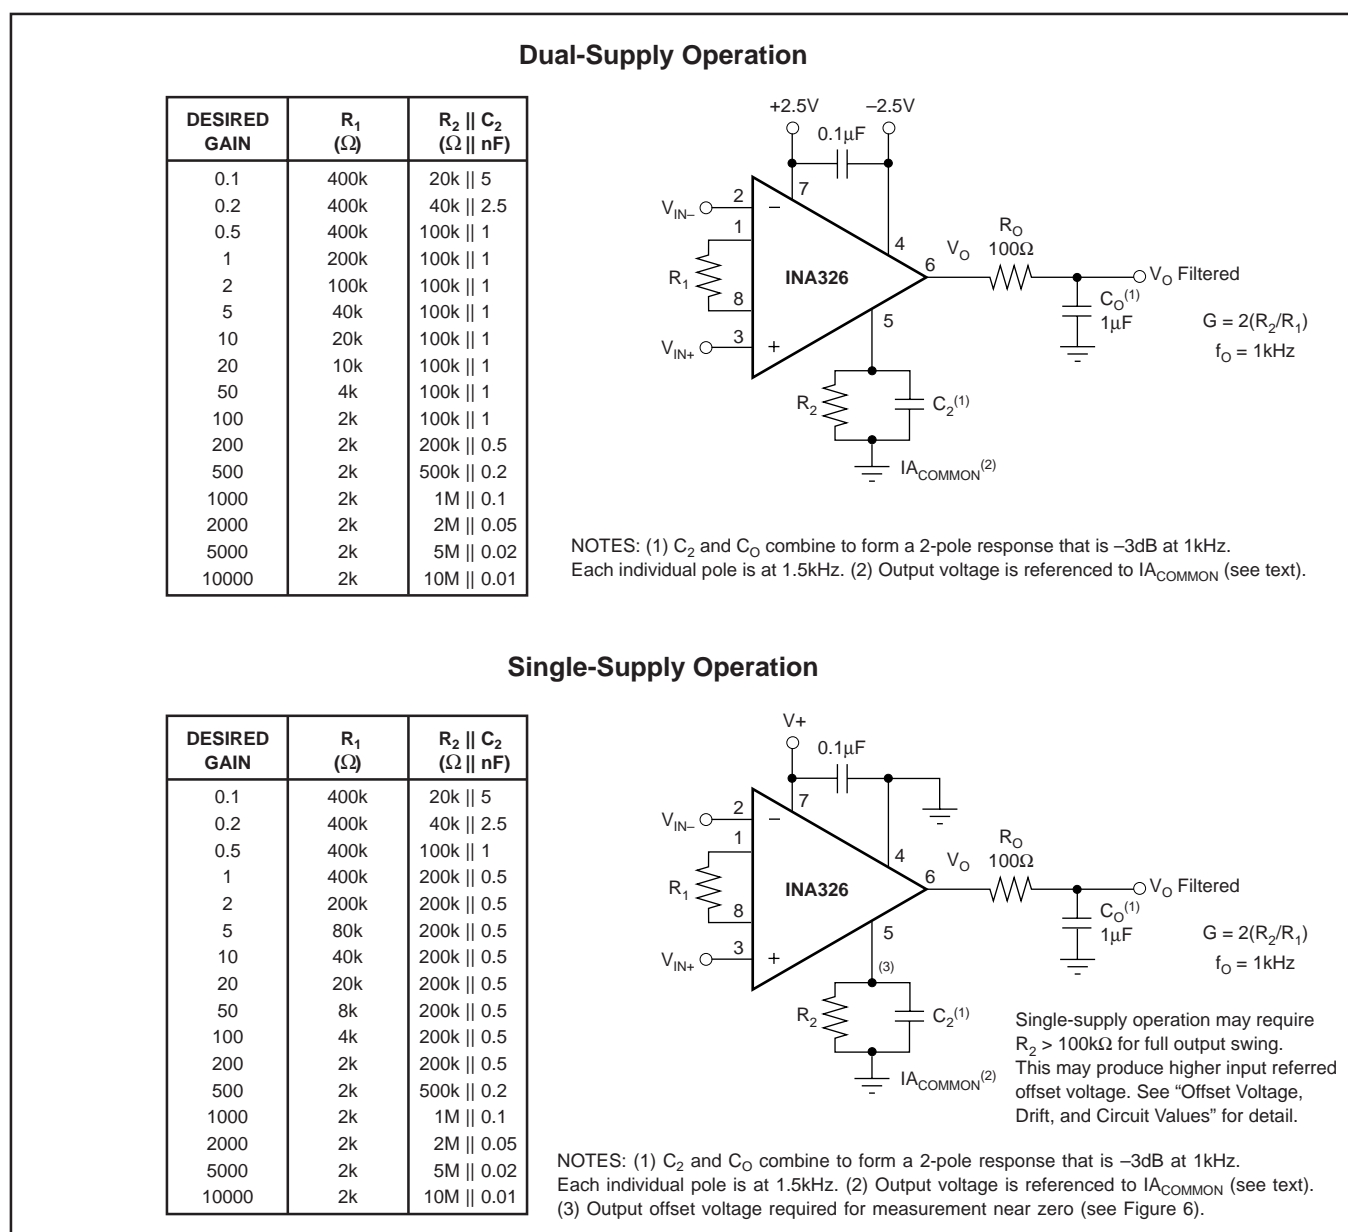

FIGURE 1. Basic Connections. NOTE: Connections for INA327 differ—see Pin Configuration for detail.
NOTES: (1) 1000-hour life test at  $150^{\circ}C$  demonstrated randomly distributed variation in the range of measurement limits—approximately  $10\mu V$ . (2) See Applications Information section, and Figures 1 and 3. (3) Does not include error and TCR of external gain-setting resistors. (4) Dynamic response is limited by filtering. Higher bandwidths can be achieved by adjusting the filter. (5) See Typical Characteristics, "Input Offset Voltage vs Warm-Up Time".
Figure 1 shows the basic connections required for operation of the INA326. A 0.1µF capacitor, placed close to and across the power-supply pins is strongly recommended for highest accuracy. ROCO is an output filter that minimizes auto-correction circuitry noise. This output filter may also serve as an anti-aliasing filter ahead of an Analog-to-Digital (A/D) converter. It is also optional based on desired precision.
Resistor values for commonly used gains are shown in Figure 1. Gain-set resistor values for best performance are different for +5V single-supply and for ±2.5V dual-supply operation. Optimum value for R1 can be calculated by:
Following this design procedure for  $R_1$  produces the maximum possible input stage gain for best accuracy and lowest noise. Circuit layout and supply bypassing can affect performance. Minimize the stray capacitance on pins 1 and 8. Use recommended supply bypassing, including a capacitor directly from pin 7 to pin 4 ( $V_+$  to  $V_-$ ), even with dual (split) power supplies (see Figure 1).
These equations might imply that offset and drift can be minimized by making the value of  $R_2$  much lower than the values indicated in Figure 1. These values, however, have been chosen to assure that the output current into  $R_2$  is kept less than or equal to  $\pm 25\mu A$ , while maintaining  $R_1$ 's value greater than or equal to  $2k\Omega$ . Some applications with limited output voltage swing or low power-supply voltage may allow lower values for  $R_2$ , thus providing lower input-referred offset voltage and offset voltage drift.